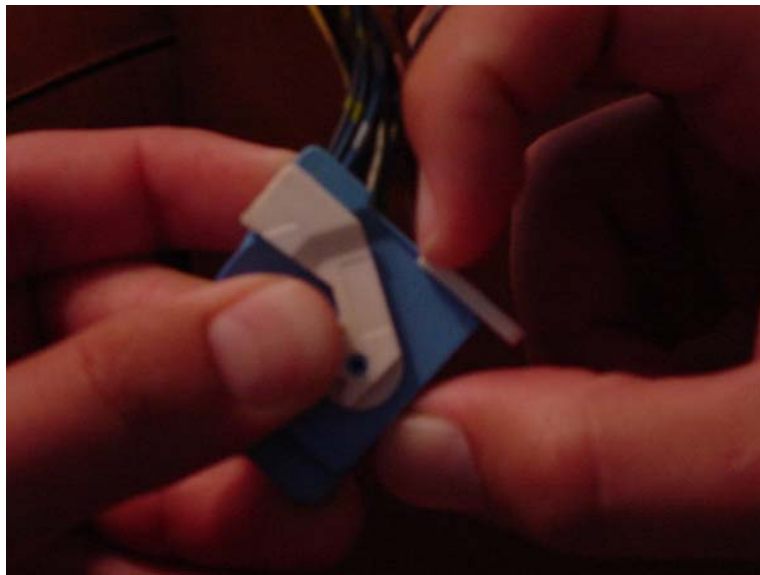
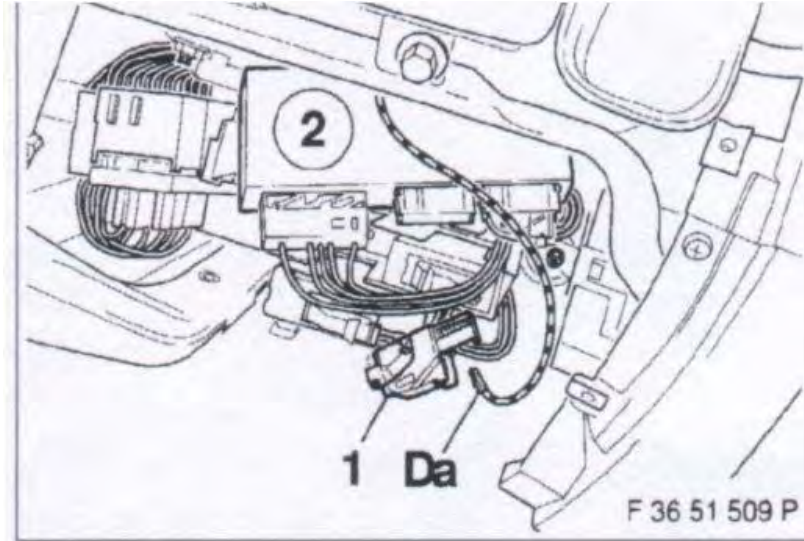

Figure 23 – Slide Off White Cover from Connector
Figure 24 – Da Connection Behind Glove Box
- 6.5.1 Route connection Da under the dash toward the glove box area. I routed the cable through the small opening behind the climate control ducting and above the accelerator pedal (near heater core). Depending on the path you choose, there may not be enough length in Da to reach behind the glove box. If so, you will need to extend the wire by splicing additional wire. Once behind the glove box identify the green connector in the central electronics (Figure 23). Pull out the green connector and remove the plastic white cover and slide out the connector from the green cover (Figure 23). Then plug Da into empty slot for Pin #19 (Figure 24). If Pin Slot 19 is not empty, then splice Da into that
7.8.1 Route connection L under the dash toward the glove box area, just as was done for connection Da above (6.5). Once behind the glove box identify the green connector in the central electronics (Figure 23), which should already be pulled out when installing Da. Plug L into empty slot for Pin #18. If Pin Slot 18 is not empty, then splice L into that wire. Reconnect the green connector to the central electronics module.